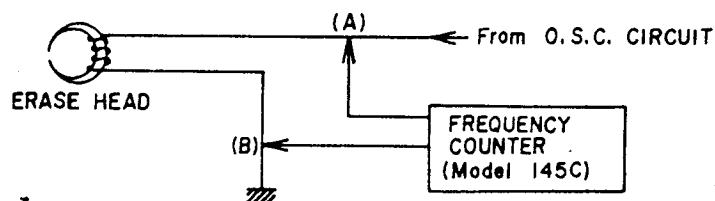

Fig. 16
### 3. RECORDING BIAS FREQUENCY ADJUSTMENT (See Fig. 16)
Connect a Frequency Counter to points (A) and (B) in Fig. 16 of the Erase Head and read the frequency indication.